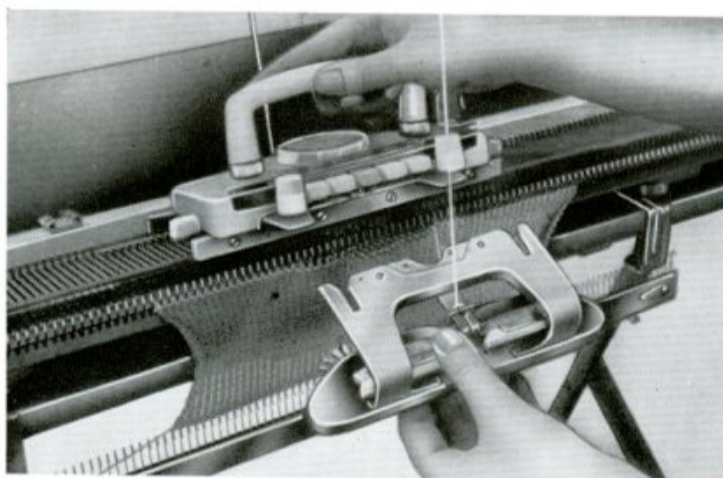

Fig. 43
- a. Loosen the thumb screws of the sinker plate, remove the sinker plate from the carriage. (See Fig. 43)